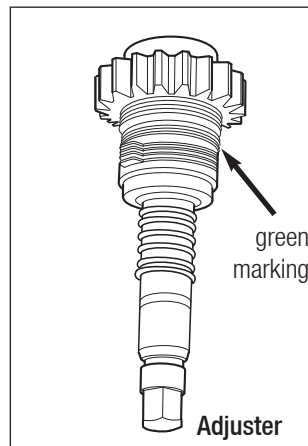

Fig. 11.7
- LH adjuster assemblies are identified by a green marking on the wrap spring (Fig 11.7).